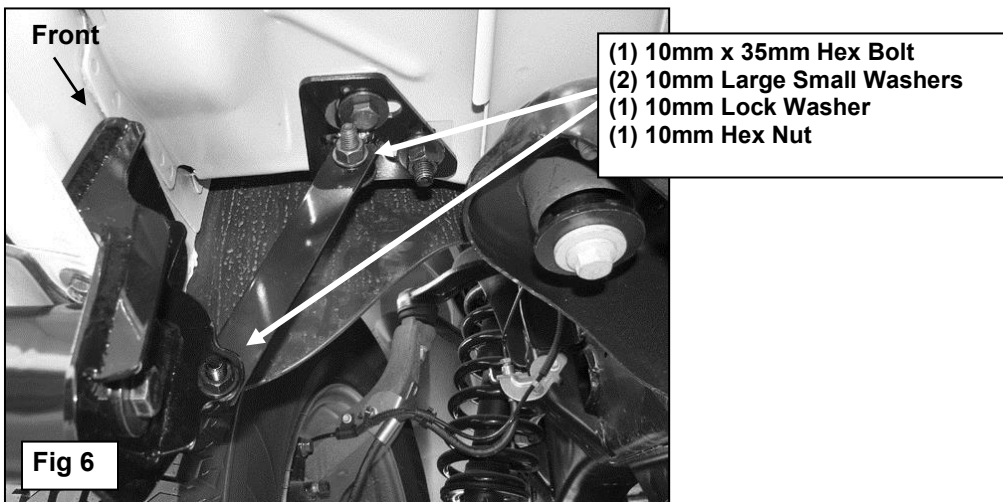

**Fig 3A**
3. Next, locate the round and square holes in the floor panel next to the body mount. Select (1) 12mm x 40mm x 10mm Nut and Bolt Plate and thread (1) 12mm Plastic Retainer part way onto it, **(Figure 3A)**. Insert the Nut and Bolt Plate into the square hole in the floor, **(Figure 3B)**. Line up the nut on the Nut and Bolt Plate with the round hole. **IMPORTANT:** The Plastic Retainer is designed to prevent the Bolt Plate from falling into the body cavity and to aid in mounting the Bracket. After inserting, thread the Plastic Retainer down flush against the body panel. **NOTE:** For passenger side installation, temporarily remove the ground strap if interfering with install.